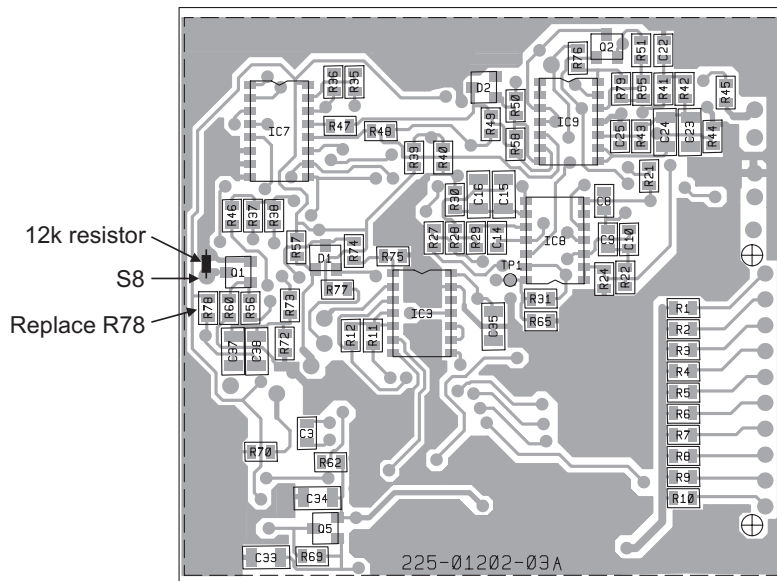

Figure 5 T800-02 PCB Layout - Bottom Side
1. Replace R78 with the 10k chip resistor provided and solder the 12k resistor between S8 and ground, as shown in Figure 5.